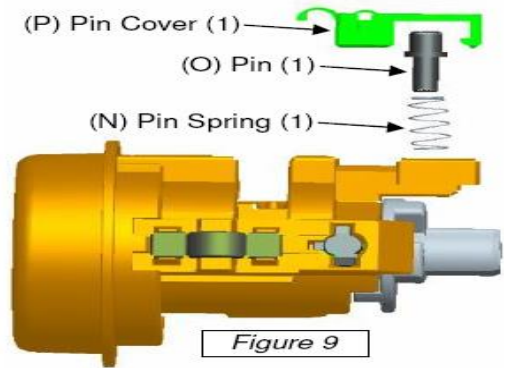

Figure 9
8) Install pin spring (N) then pin (O) and finally pin-cover (P) into housing (E). Make sure the pin-cover snap fits all around and fully seats. Reference figure 9